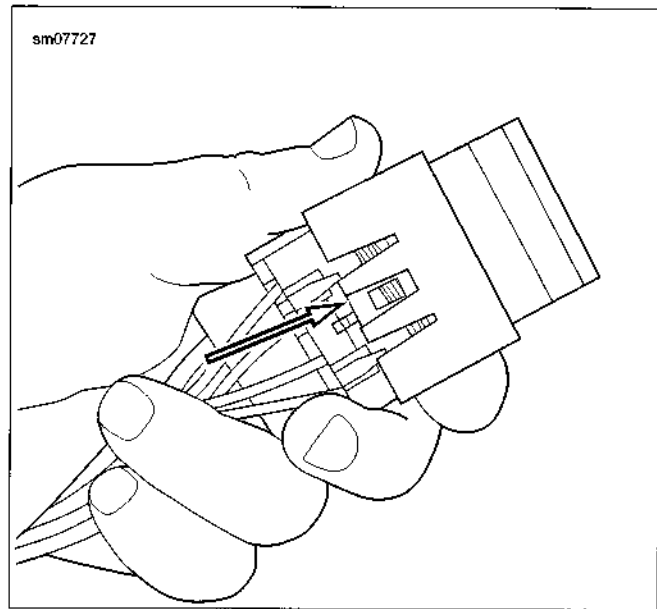

Figure 6-2. Cap Side Latch
3. See Figure 6-2. Lift side latches to remove the cap.